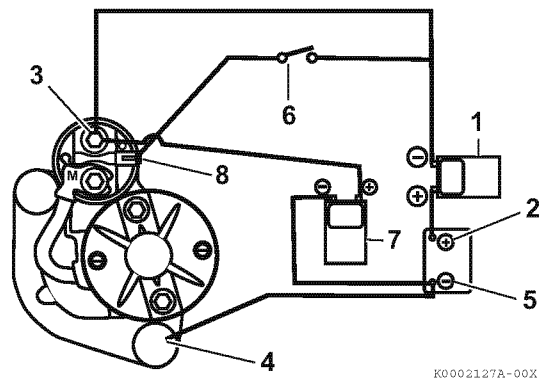

Figure 10-37
2. Connect an ammeter **(Figure 10-37, (1))** in series between the battery positive (+) terminal **(Figure 10-37, (2))** and the main positive (+) terminal **(Figure 10-37, (3))** on the starter motor.
3. Connect a wire lead between the mounting base of the starter motor **(Figure 10-37, (4))** and the battery negative terminal **(Figure 10-37, (5))**.
4. Connect a voltmeter **(Figure 10-37, (7))** to the battery negative (-) terminal **(Figure 10-37, (5))** and the main positive (+) battery terminal **(Figure 10-37, (3))** on the starter motor.
5. Install a switch **(Figure 10-37, (6))** in a circuit between the battery positive (+) terminal **(Figure 10-37, (2))** and the starter solenoid switch terminal **(Figure 10-37, (8))** on the starter motor.